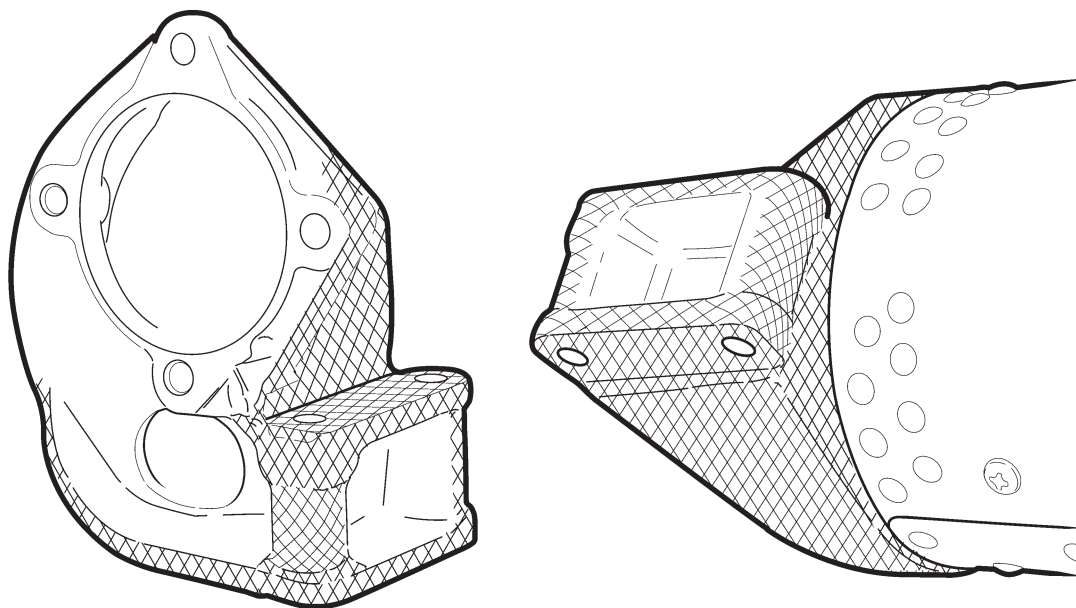

FIGURE 2-23 CROSS-HATCHED SURFACES OF TAILCONE'S AFT CASTING
1. On associated tailcone's aft casting, strip paint from cross-hatched surfaces shown in Figure 2-23.